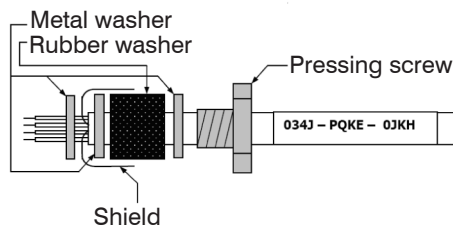

Fig. 11 Cable assembling
- ➡ Place the pressing screw, the rubber washer and the metal washers of the cable gland one after the other onto the prepared cable end, see Fig. 11.
After you have modified the sensor code, a reset is necessary to activate the change, see Fig. 11.